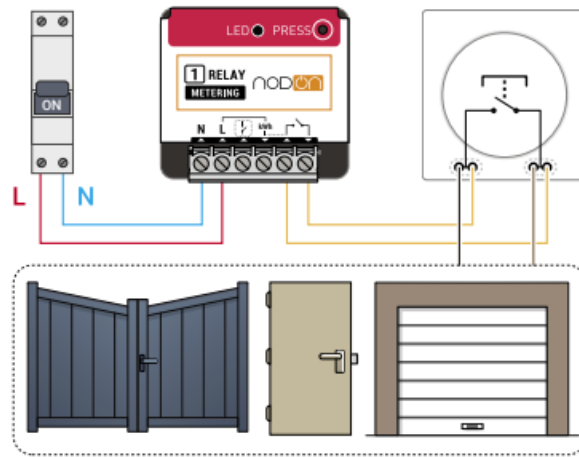

Figure 3
3. Wire the Zigbee Multifunction Relay Switch with metering, in parallel to the push-button following the diagram figure 3.